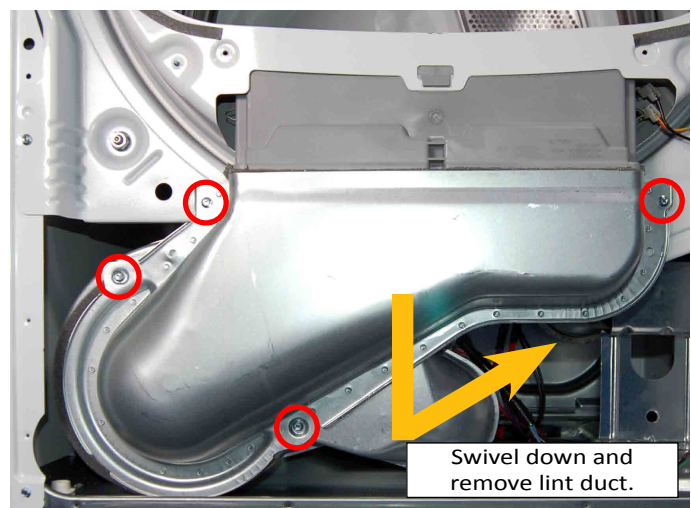

Figure 4
7. Remove the four (4) 1/4" hex-head screws from the lint duct as illustrated in Figure 4. Swivel the lint duct down from the bulkhead and remove.